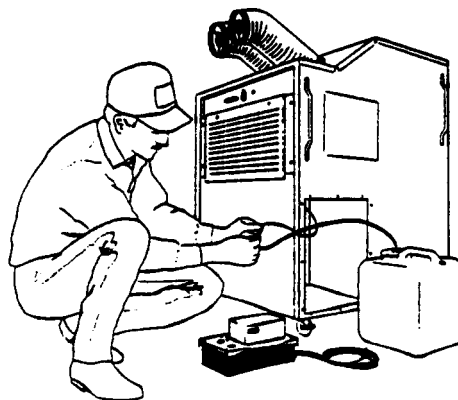

Figure 4 Disconnecting the bottle and installing the pump
3. Place the condensate pump into the bottle compartment and connect the white connector on the pump (it has two red wires with yellow strips) to the connector from the unit (see figure 4 & 5).